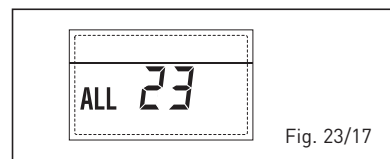

Fig. 23/17
- **SOLAR COLLECTOR SENSOR ANOMALY (S1) “ALL 24” (fig. 23/18)**